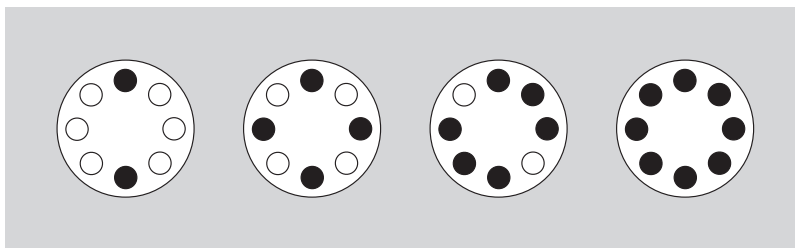

Figure 1. Arranging Tubes in the Rotor. Two, four, six, or eight tubes can be centrifuged per run if they are arranged in the rotor as shown.
2. Load the filled containers symmetrically into the rotor. (Refer to TUBES AND BOTTLES on page 13 for information about containers.) If fewer than eight tubes are being run, they must be arranged symmetrically in the rotor (see Figure 1). Opposing tubes must be filled to the same level with liquid of the same density.